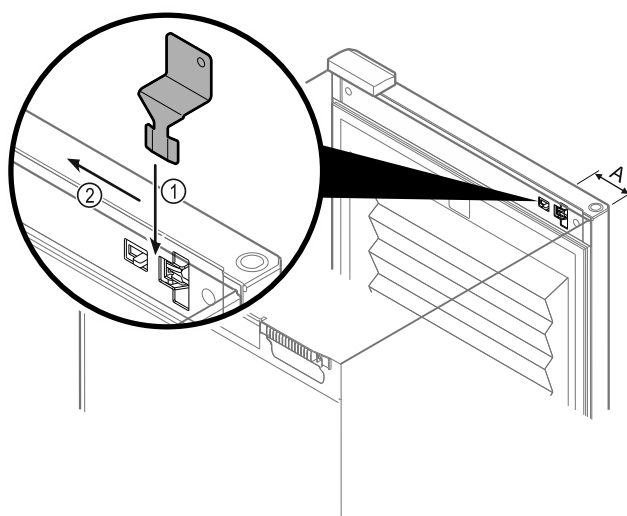

Fig. 112
- Insert the emergency release key in the specified position Fig. 112 (A) \approx 100 mm.
- Insert the emergency release key Fig. 112 (1) between the door and the body of the appliance from above to the end stop.
- Pull the emergency release key towards the hinge. Fig. 112 (2)